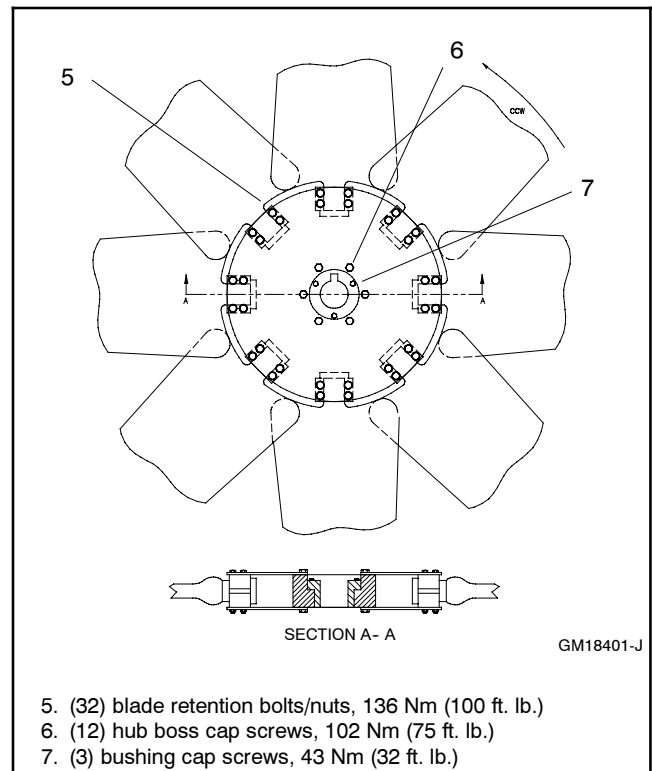

Figure 3-8 Fan Hardware Location and Torque
6. Retorque the (32 qty.) blade retention bolts/nuts to 136 Nm (100 ft. lb.). See Figure 3-8.